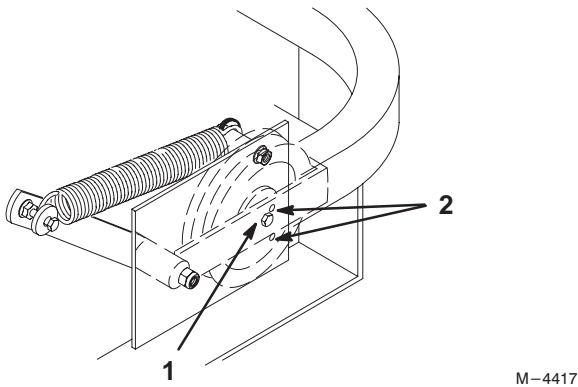

Figure 50
6. Check belt tension. The center bolt of spring loaded idler must be between the two alignment holes in left support plate (Fig 50).
Note: Check position of center bolt in Low Height of Cut. The center bolt must be at or below the top alignment hole. Check position of center bolt in a High Height of Cut. The center bolt must be at or above the lower adjustment hole (Fig 50).
8. Check belt tension again. The center bolt of spring loaded idler must be between the two alignment holes in left support plate (Fig 50). Adjust, if necessary, and tighten all hardware securely.